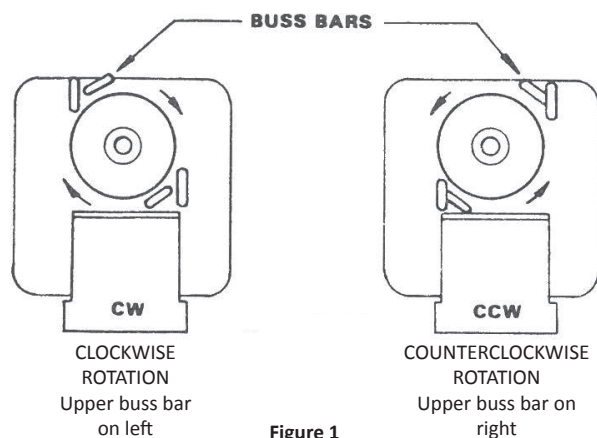

Figure 1
1. Determine rotation direction of defective motor. On skeleton frame motor rotation can be determined without running by location of the buss bars. See Figure 1.